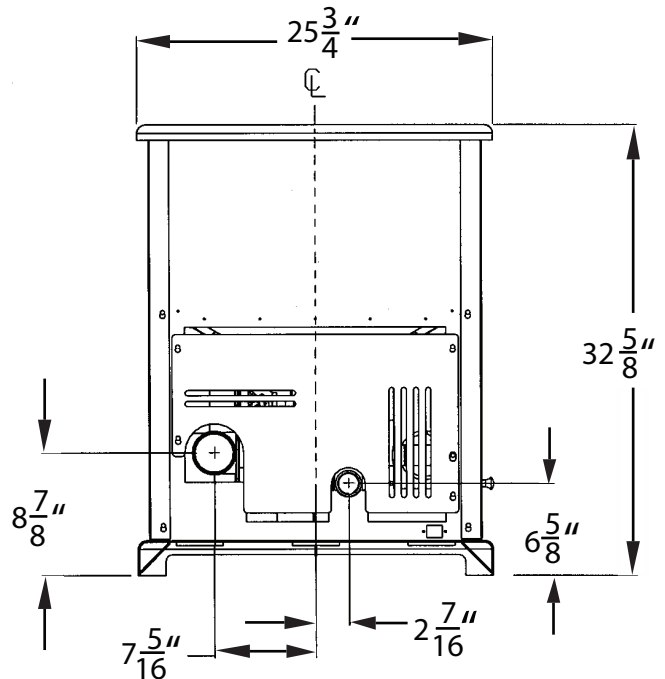
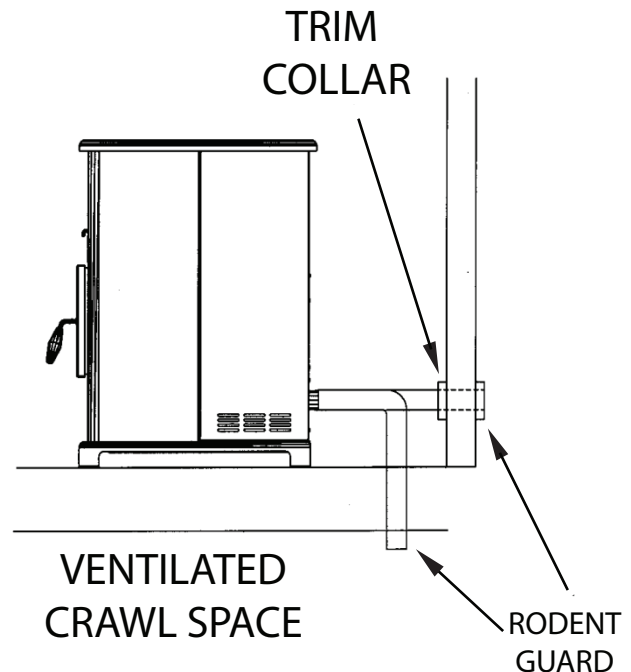

FIGURE 3
FIGURE 4
For a mobile home installation, the stove must be connected to an outside source of combustion air. A 2" inside diameter metallic pipe, either flexible or rigid, may be attached to the inlet at the stove's rear (refer to figure 3). A rodent guard (minimum 1/4" wire mesh) wind hood must be used at the terminus (refer to figure 4). All connections must be secured and airtight by either using the appropriately sized hose clamp and/or UL-181-AP foil tape.
2. Locate position of hole in wall; directly behind stove exhaust vent (refer to figure 3).